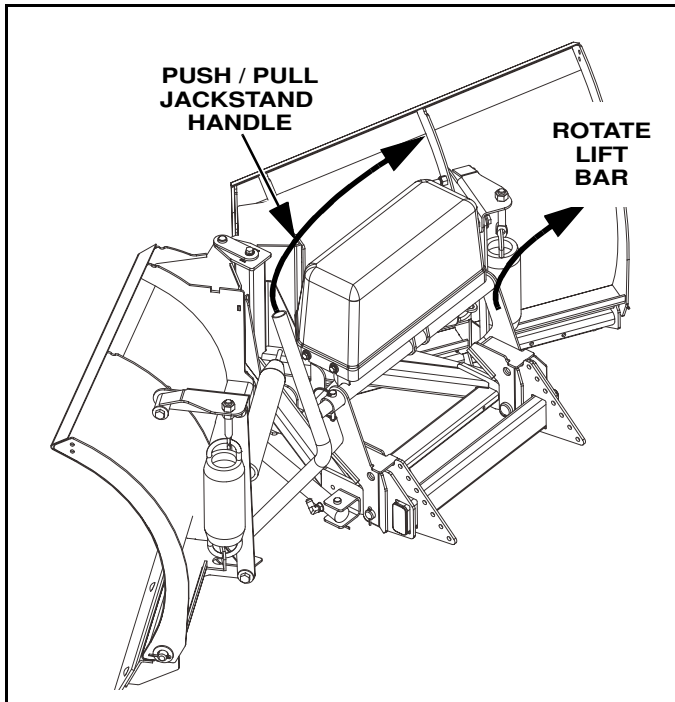

Figure 1-12
4. Push or pull the top of the jackstand toward the UTV to rotate lift bar into position. (See Figure 1-12)